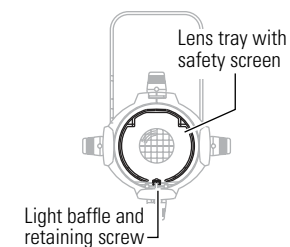

Figure 10
1. Loosen the screw at the front of the light baffle. See **Figure 10**.